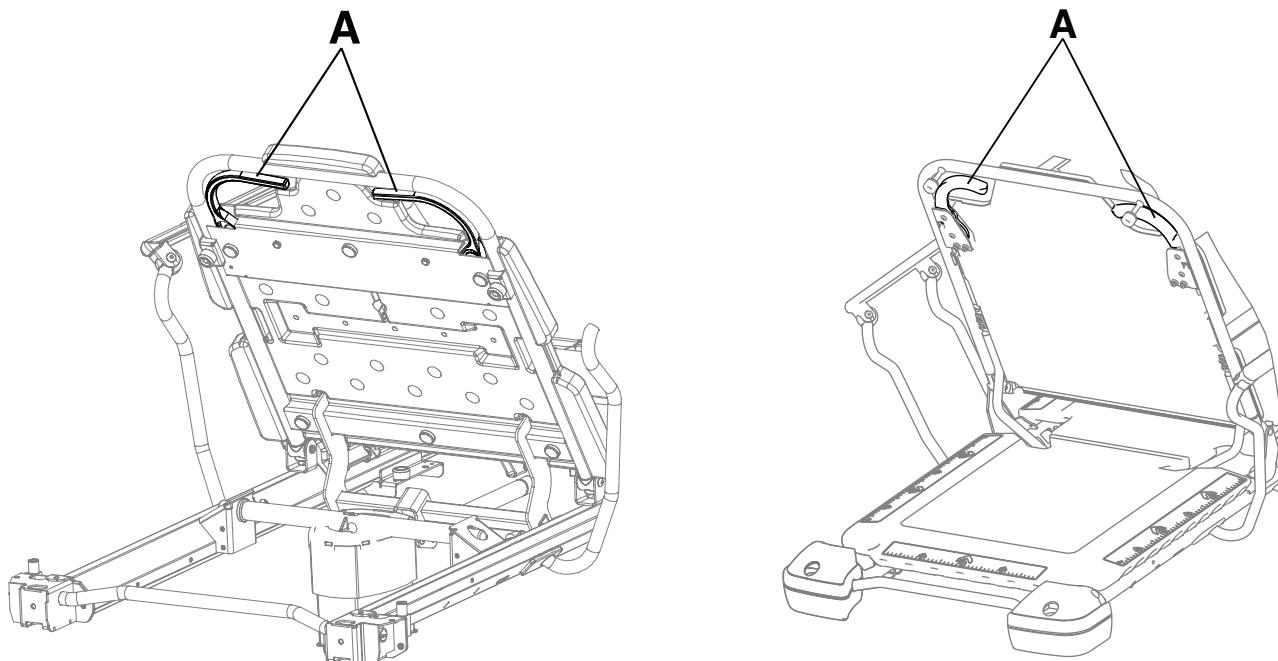

Figure 21 – Raising or lowering the Fowler backrest
1. Squeeze and hold one or both of the Fowler backrest release handles (A) while you pull the Fowler backrest up to the desired position (0° to 90°) (Figure 21).
1. Squeeze and hold one or both of the Fowler backrest release handles (A) while you push the Fowler backrest down to the desired position (90° to 0°) (Figure 21).